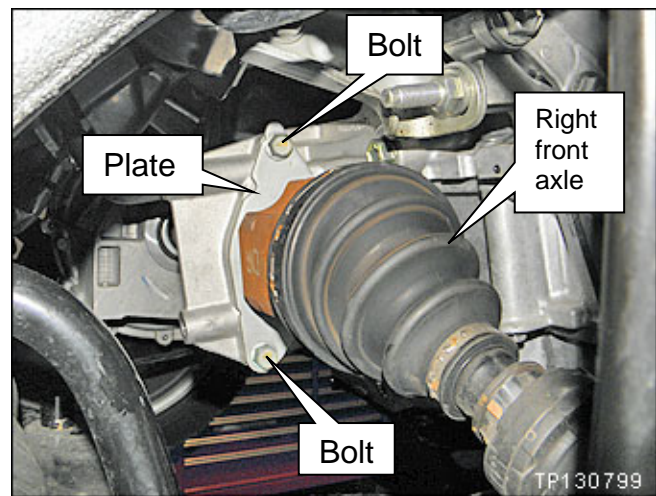

Figure A2
- Remove the plate shown in Figure A2.